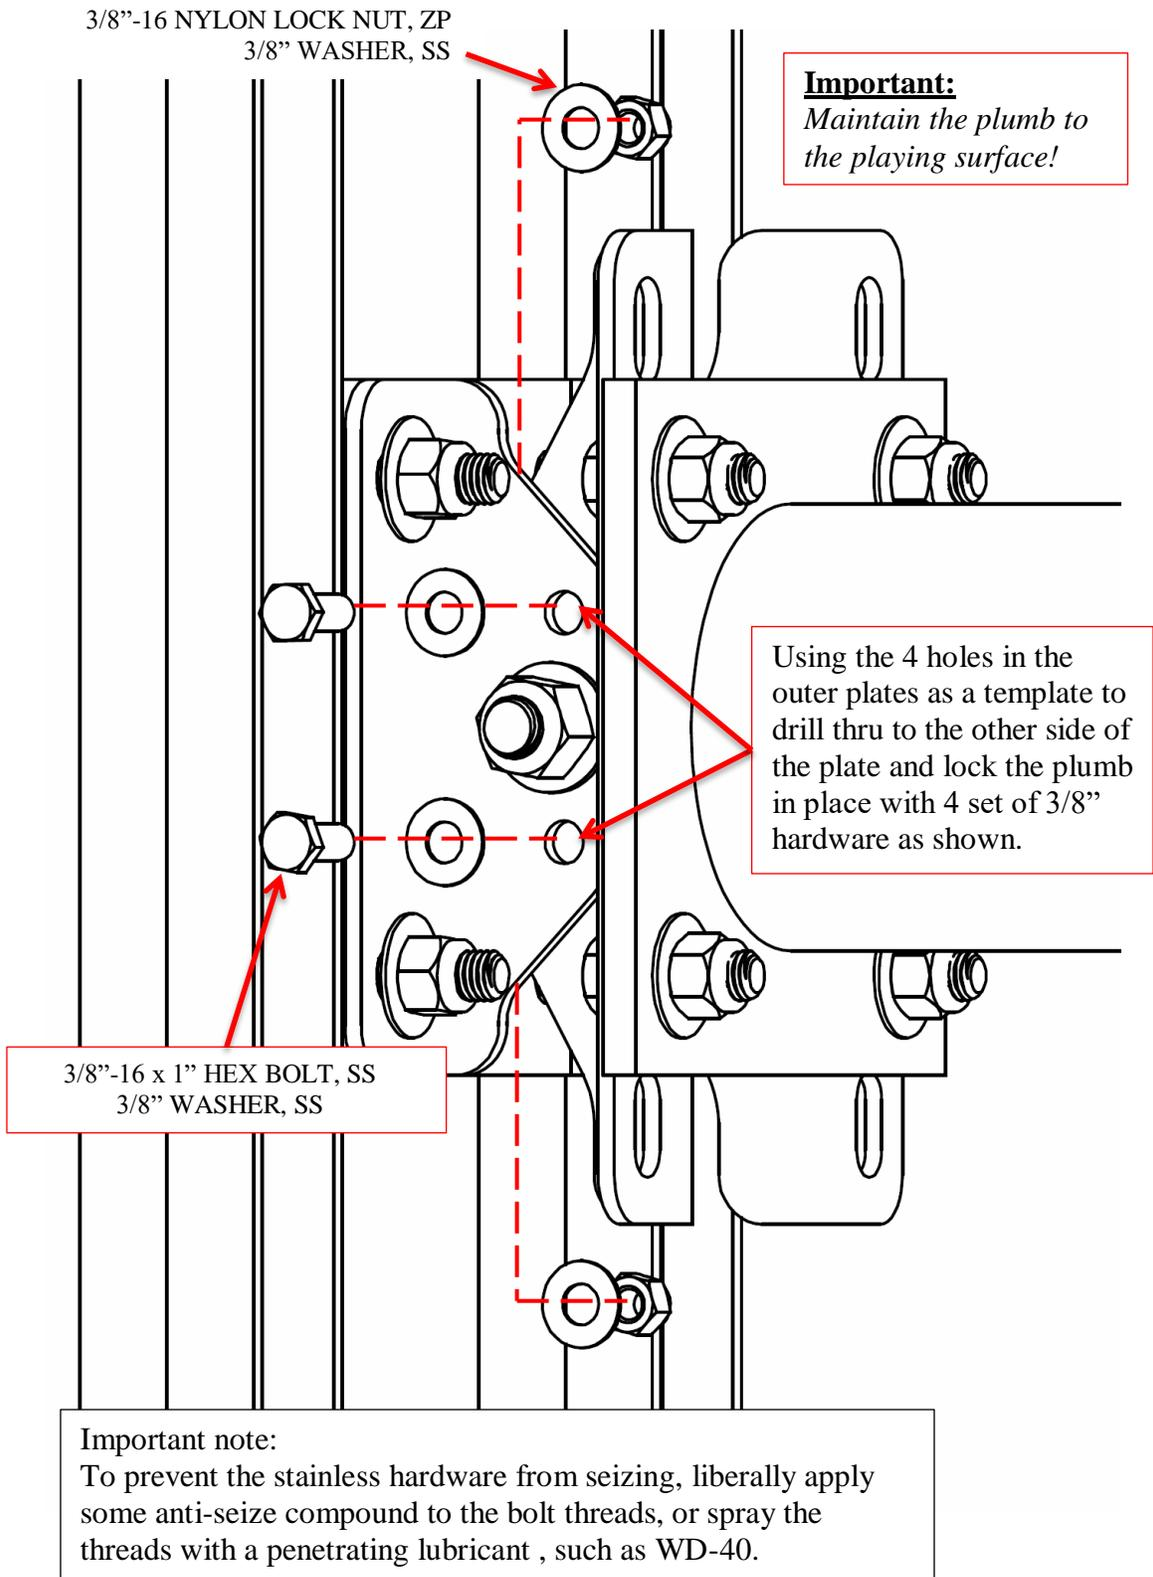

Figure 10
3. Using the 4 holes in the outer plates as a template to drill thru to the other side of the plate and lock the plumb in place with 4 set of 3/8" hardware as shown (*Figure 10*).